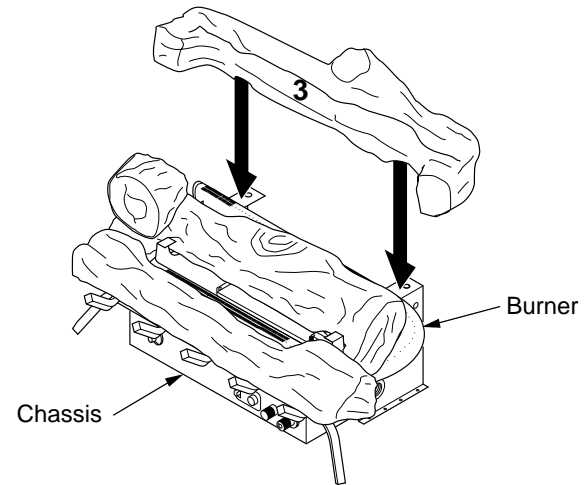
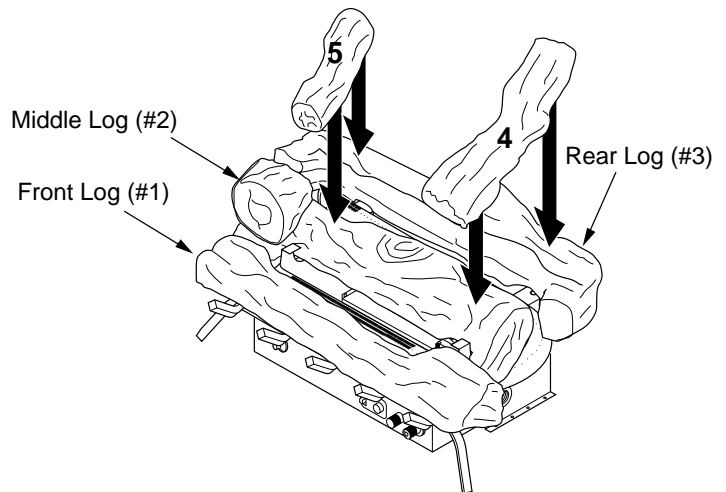

Figure 28 - Installing Golden Oak 5-Piece Log Set - Log 3
Figure 29 - Installing Golden Oak 5-Piece Log Set - Logs 4 and 5
3. Place rear log (#3) on back portion of chassis (see Figure 28). Log will "hug" the burner (see Figure 29).
4. Place right top log (#4) over logs #1, 2 and 3 as shown in Figure 29. Top log will sit down into indentions in these logs.